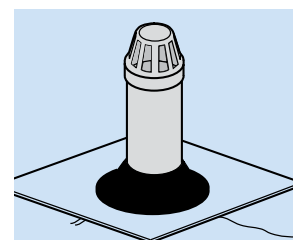

Fig. 60
- Place 150 Vent Cowl on open end of soil stack (do NOT solvent-weld at this stage). Slide 149 Weathering Slate over stack. Push slate (and its rubber cone) down onto first layer of felt (Fig. 60).